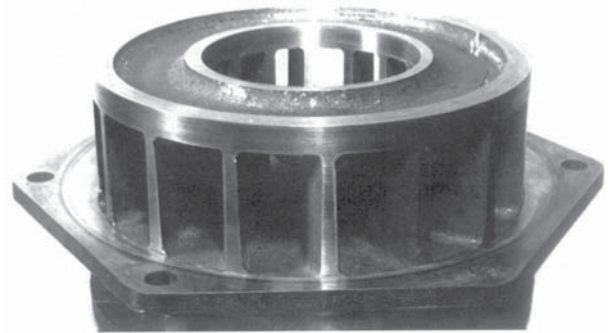

Figure 6-2 – Rotor Assembly
5. Secure the rotor to the shaft by means of a key (15), a hex head lock bolt (13), and a washer (14). Lower the rotor onto the shaft key, making sure to align the notch with the shaft key. For the rotor to turn freely, there must be some clearance between it and the casing. On models A5, A10, A15, and A20, this clearance is established by adding washer shims (10) until no rub is felt between the back of the rotor and the casing face. On models A75, A100, A130, A200, and A300, use shims to position the rotor so that the casing face lines up with the inside wall of the rotor shroud. (See exploded view drawing on page 16 and **Figure 6-2 on page 12**).